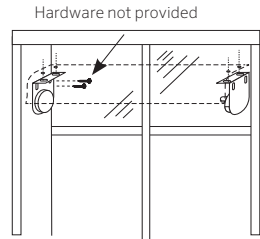

Fig 5
* Install the clutch and idle end unit using screws provided (Fig 5) along with wire guide anchor brackets. See *Wire Guide System Assembly* (page 14) .